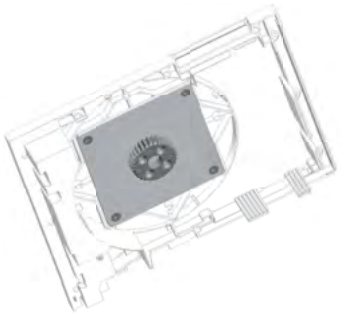
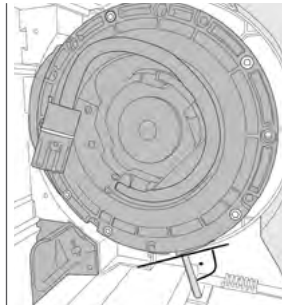

Fig. 3.7
Fig. 3.8
- 1) The adapter panel is individually tailored to the box head piece. Secure the adapter panel using suitable screws (Fig. 3.7). Place the MAN Rescue on top of the adapter panel. The specific adapter panel causes the MAN Rescue to automatically assume the correct position. The strap is later inserted into the strap guide directly from the MAN Rescue (Fig. 3.8).